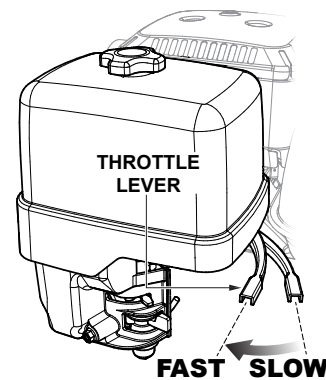

Figure 20. Throttle Lever (Fast/Run Position)
11. To begin compacting, place the throttle lever (Figure 20) in the "FAST" (RUN) position.